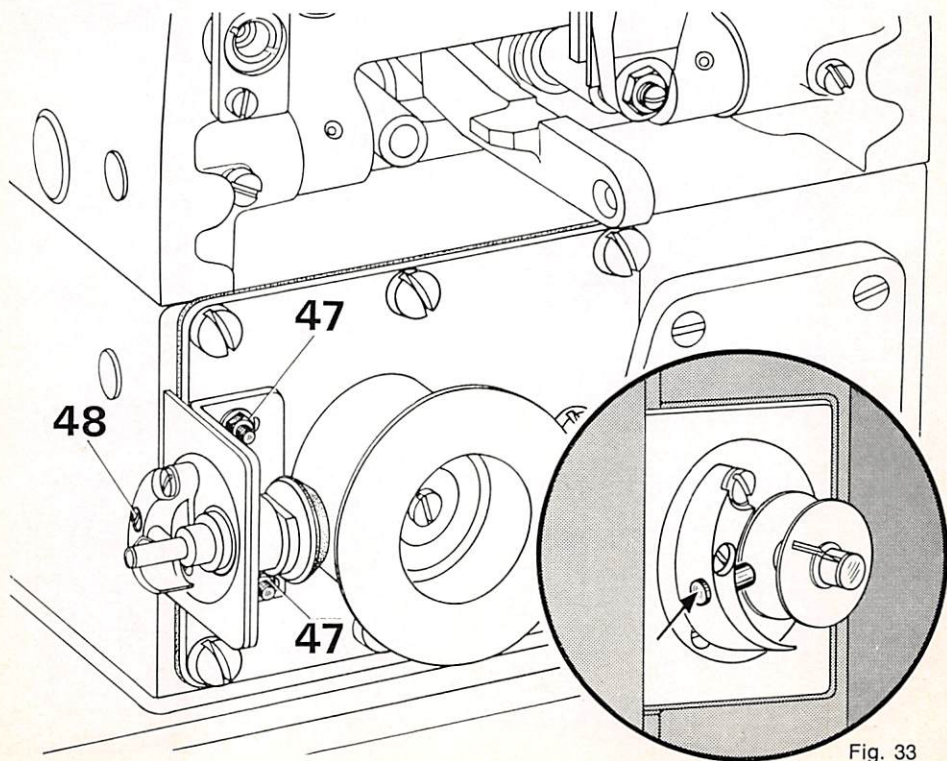

Fig. 33
**33. Adjusting the bobbin winder (Fig. 33)**
- 33.6. Adjust the stud on the stop latch so that the bobbin winder stops when the thread wound on the bobbin is 1 mm (0.04") below its rim (see encircled view of Fig. 33).